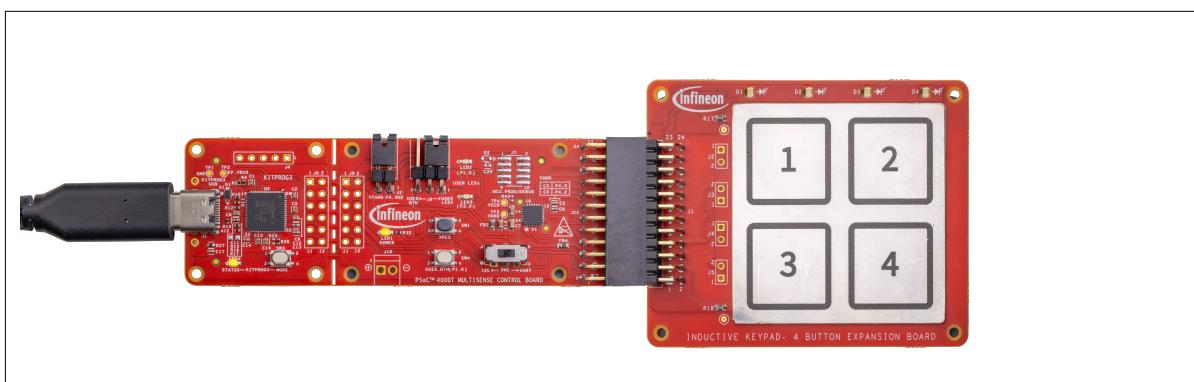

Figure 11 **ISX Keypad-4 board connected**
2. Connect the Keypad-4 expansion board at the header as shown in Figure 11